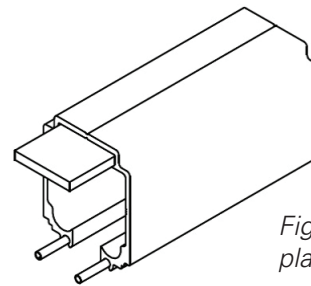

Figure 2: Track with pins and plate for alignment
- Join the straight track with the curve using pins and plate as shown in **Figure 2**.
- Align the tracks using pins and plate as shown in **Figure 2** before securing the track with screws.